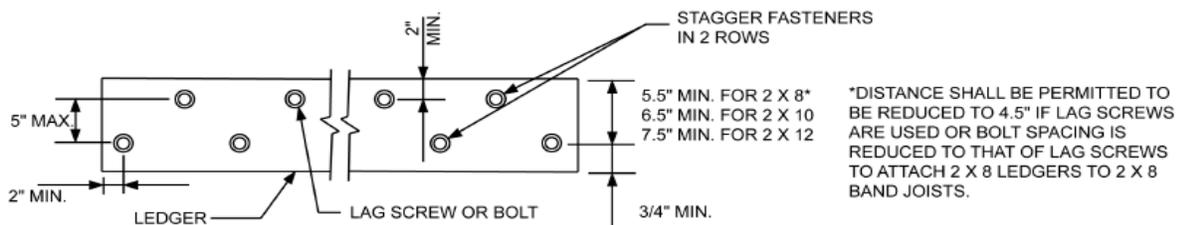

FIGURE R507.2.1(1)
- The ledger board shall be attached in accordance with **Table R507.2, Table R507.2.1, and Figure R507.2.1 (1)**.
- It is apparent that we determine what the ledger will be fastened to and if that cannot be verified the deck shall be a self-supporting structure **(R507.2.1 (1))**.
- Lag screws or bolts shall be staggered from the top to the bottom along the horizontal run of the deck ledger in accordance with Figure R507.2.1(1).
- The minimum distance from bottom row of lag screws or bolts to the top edge of the ledger shall be in accordance with Figure R507.2.1(1).